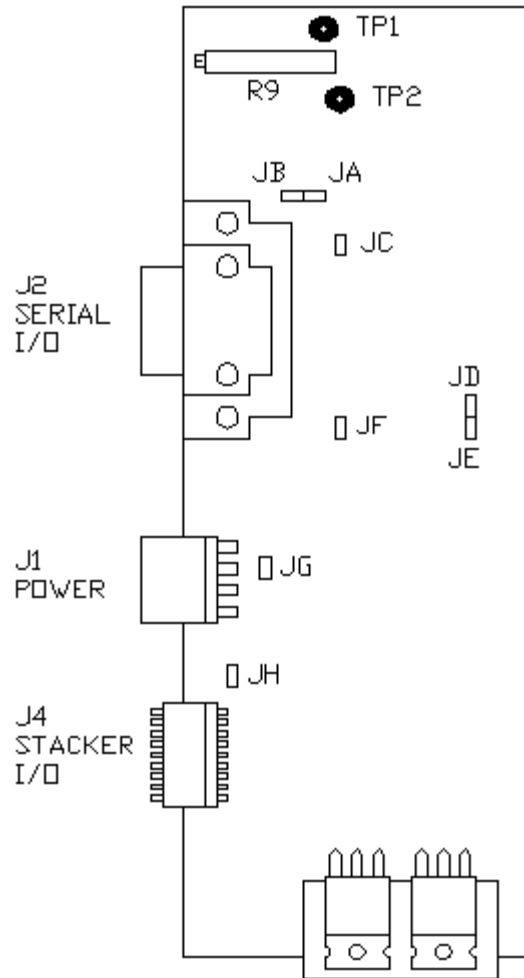

Figure 8-4
6. Connect the (+) lead of a voltmeter to TP-2 on the I/O board. Set the voltmeter to a range suitable for measuring 1 VDC (see Figure 8-4).
7. Adjust R9 on the I/O board until the voltmeter reads 0.95 VDC (see Figure 8-4).